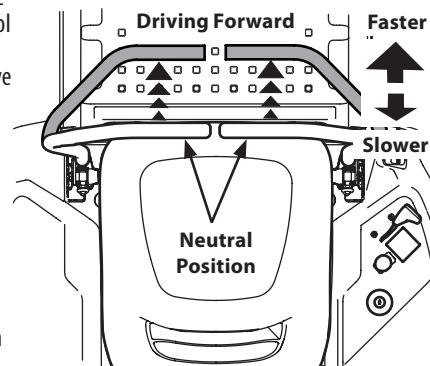

Figure 28
1. Slowly and evenly move both lapbar drive control levers forward. The tractor will start to move forward. See Figure 28.